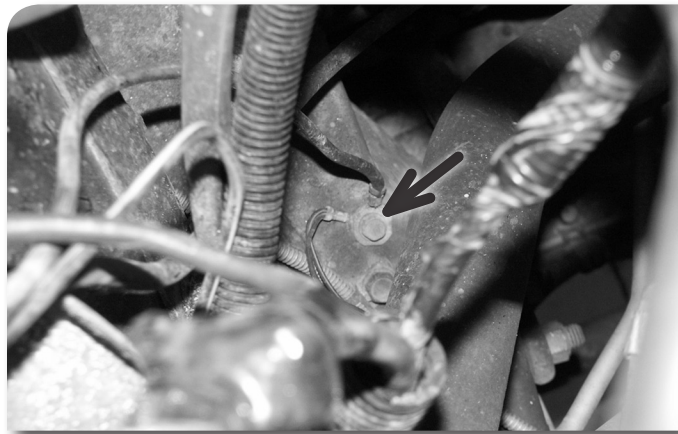

Figure 14
24. Remove the bolt mounting the ground strap(s) to the passenger's side frame rail Figure 14. Save bolt.